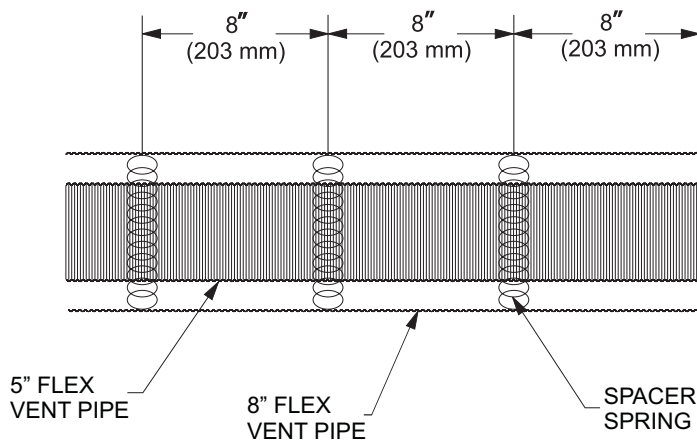

Figure 55
5. Install the Wall Firestop/Thimble assembly as required through the wall. Refer to the venting charts in the fireplace manual to determine the proper height and size of the vent opening. The minimum opening should be 10" wide by 12" high. The minimum combustible clearance from the horizontal vent is 1" from sides and bottom, and 3" above the vent pipe. **See Figure 55.**